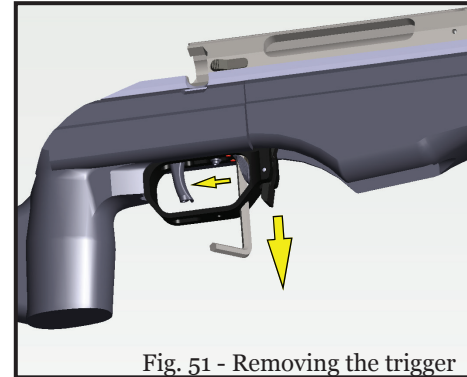

Fig. 51 - Removing the trigger
6. Pull the trigger unit downwards out of the rifle (Fig. 51).